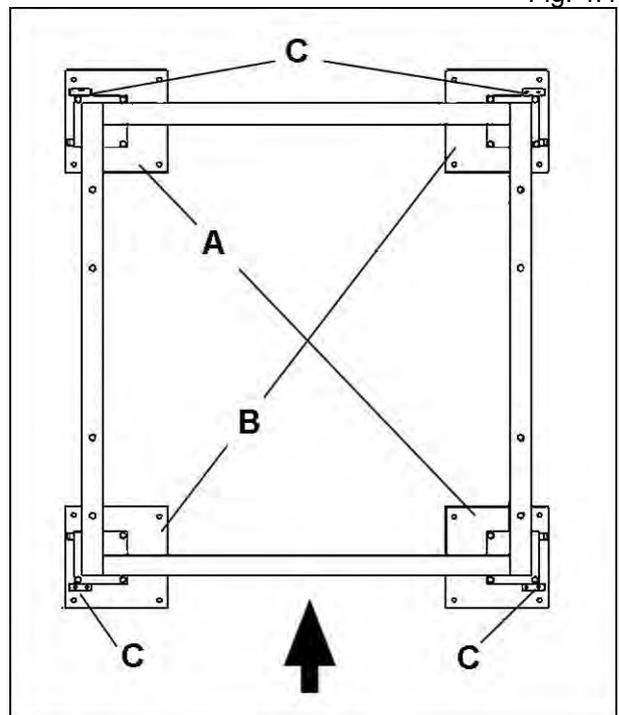

Fig. 4.5
5.4. Hold down base securing (Figure 4.5)